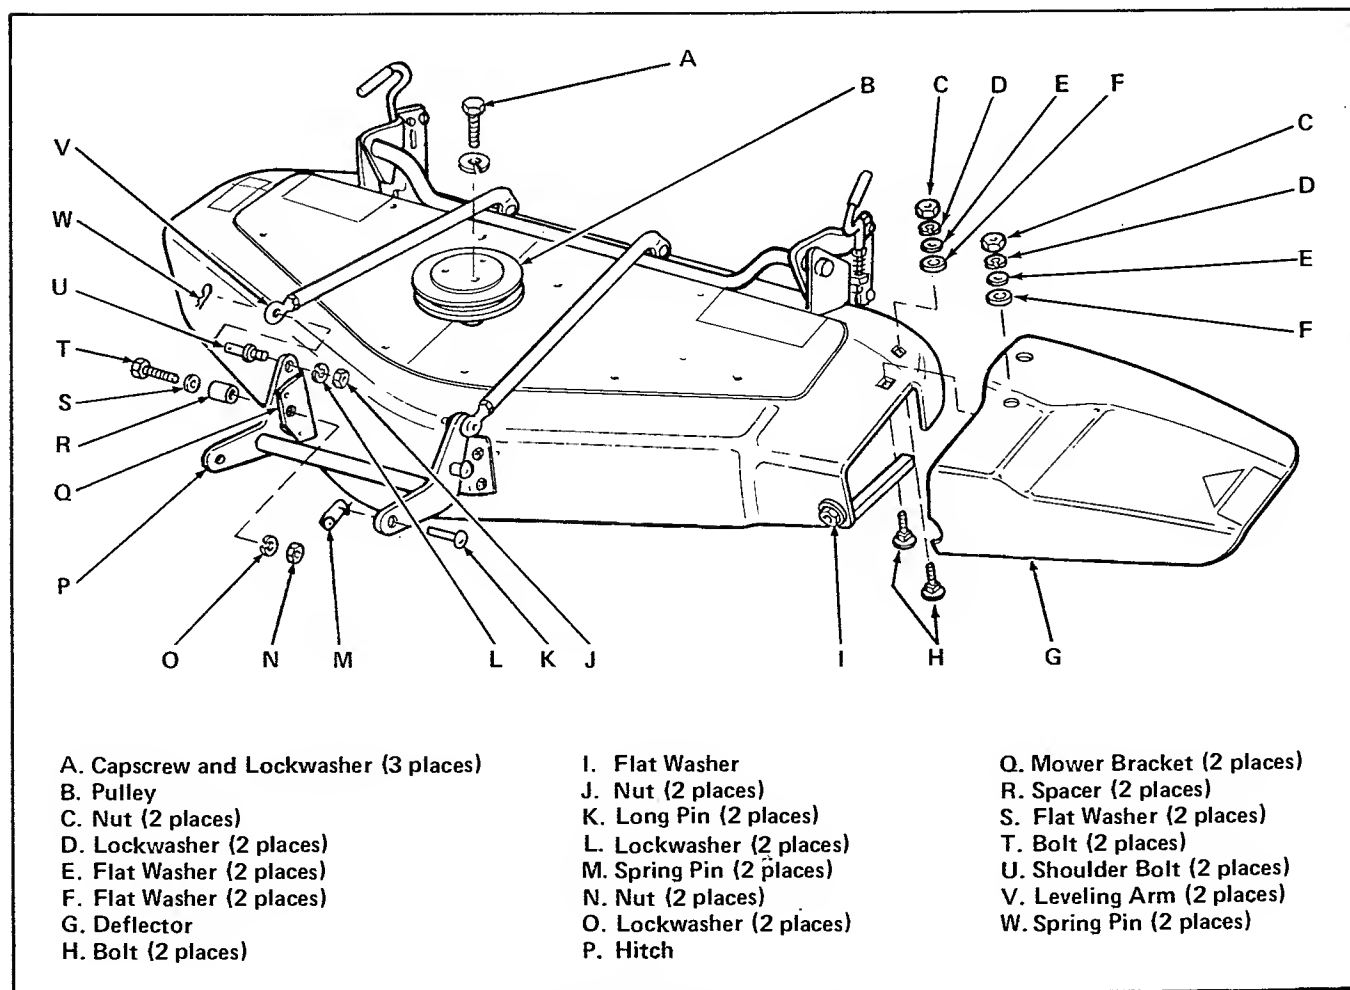

Figure 22. Assembly of 42" Mower with 5-1/8" Pulley
1. Align the hitch (item P, figure 22) with the lower holes of the mower mounting bracket (item Q).
4. Insert the threaded ends of the shoulder bolts (item U) through the holes in the hitch as shown in figure 22.